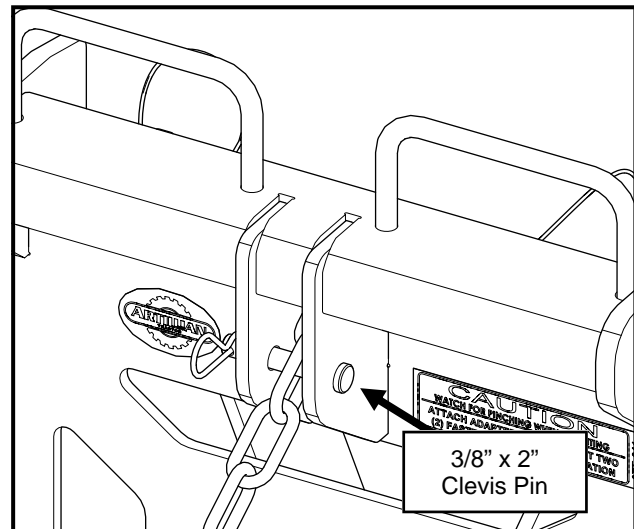

Fig. 9.2—Plow Chain to Upper Tabs
- 9.2** Connect the plow chain between the upper tabs of the mounting frame with a 3/8" x 2" clevis pin, with the pin through the third chain link, and secure with the smaller hairpin cotter pin. See Fig. 9.2.